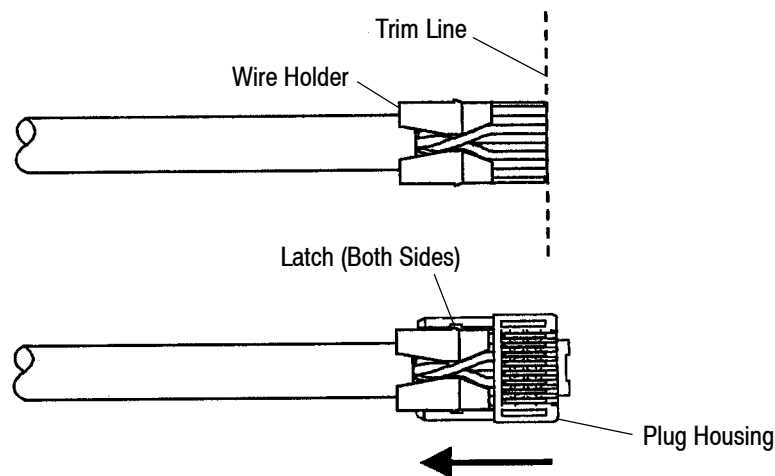

Figure 7
5. While holding all conductors down against the wire holder in a flat layer, trim all conductors evenly and square just beyond the front edge of the wire holder as shown in Figure 7.